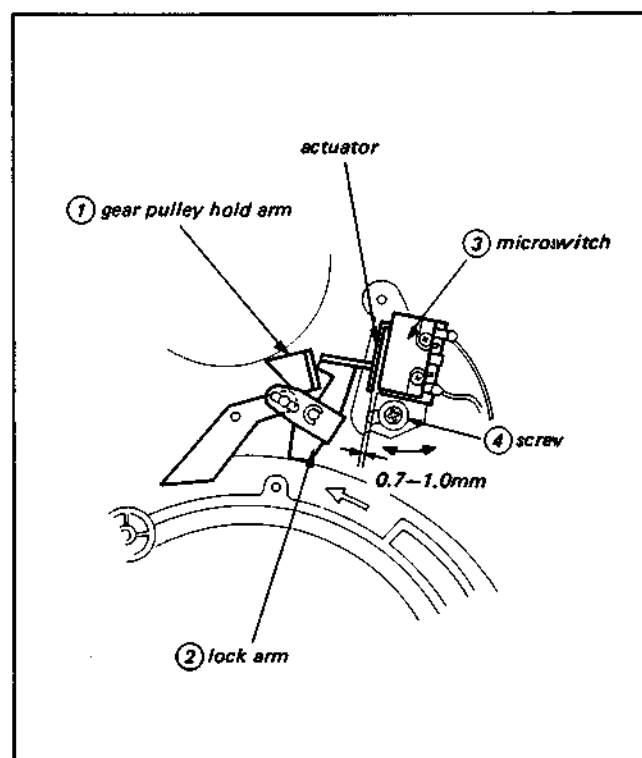

Fig. 3-38. Position adjustment of threading end switch
2. Loosen screw ④ and adjust the position of microswitch ③ so that microswitch ③ turns on before gear pulley hold arm ① moves from the groove of lock arm ②, while turning the threading ring counterclockwise (↺) slowly by hand. Confirm the turning-on of the microswitch with a click.
3. Adjust the position further so that the clearance between the actuator of microswitch ③ shown in Fig. 3-38 and the microswitch satisfies the specification (0.7mm to 1.0mm) when the threading ring is turned counterclockwise (↺) beyond the threading completion point.